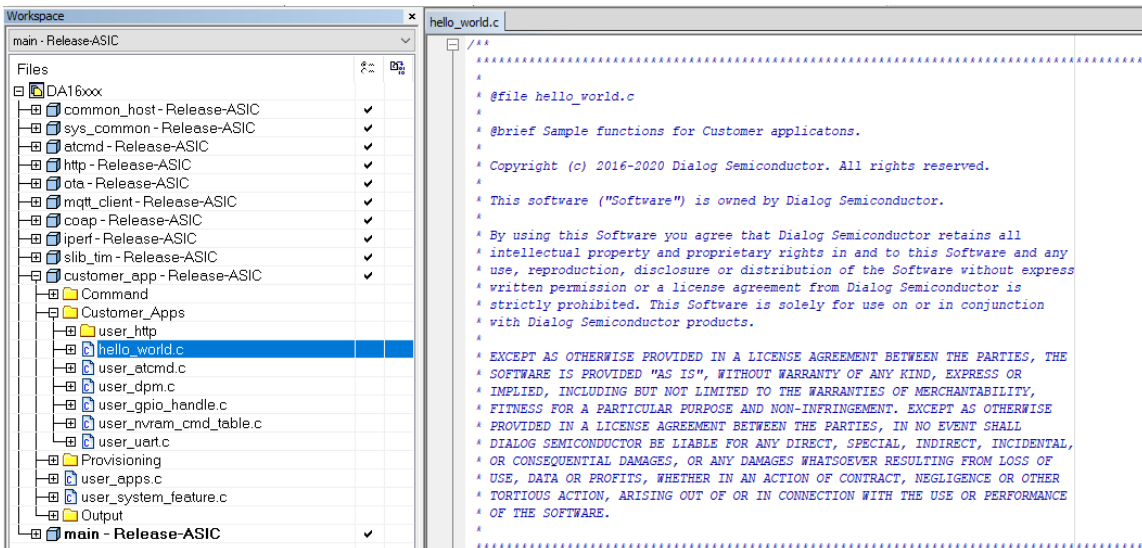

Figure 10: Add User Files to the IAR Project
2. Add the written user code files to the IAR project. See Figure 10.